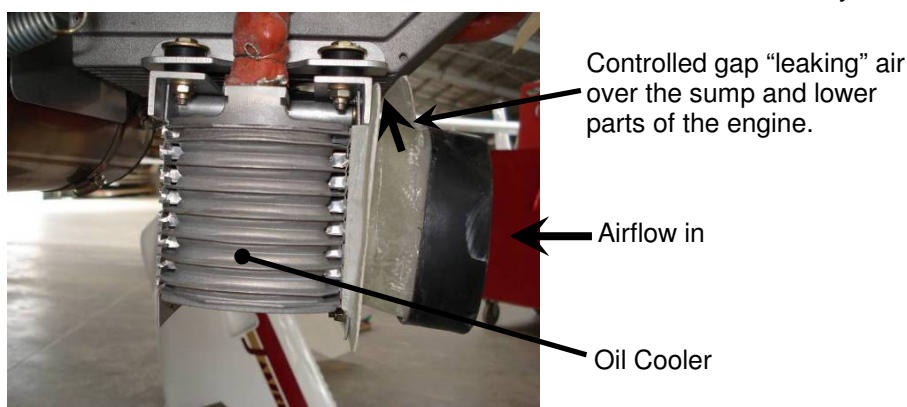

Figure 52. Oil Cooler Duct Design
- Section 13.1 noted that air leaking through gaps in the cooling system ducts is generally waste air, not contributing to cooling – though it noted that there were exceptions to this rule. Oil cooling is the feature of engine installations that is most often improved by "leaks" like this. A controlled amount of free air blowing over the sump, crankcase and underside of the engine can significantly improve oil temperatures (Figure 52 shows a duct of this type fitted to a Jabiru 6-cylinder engine). However, for this to work the cowl installation must be able to cope with the extra volume of air flowing into the cowl space – the outlet area or outlet lip size may need to be increased to suck out the extra volume.